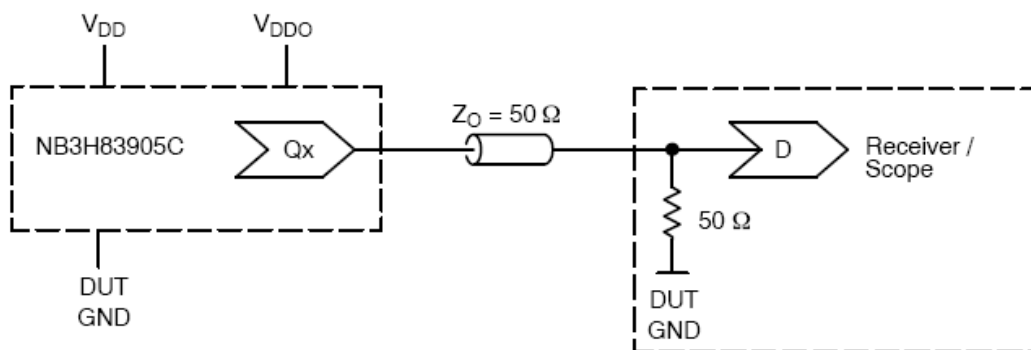

Figure 4. Typical Device Termination Setup and Termination Test Setup
1) **Test Supply Setup:** VDDO and GND Supplies may be centered on 0.0 V to permit direct connection to an Oscilloscope module (with 50 Ohm to GND) per Figure 4 and Table 1. Connect all board supplies using banana jack or clip anvil.